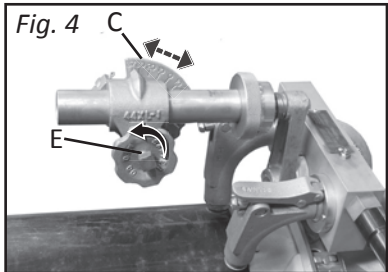

Fig. 4
- A. Loosen square nut on bevel indicator. (E, Fig. 4)
- B. Adjust Bevel Indicator to desired bevel angle. (C, Fig. 4)
- C. Retighten square nut. (E, Fig. 4)